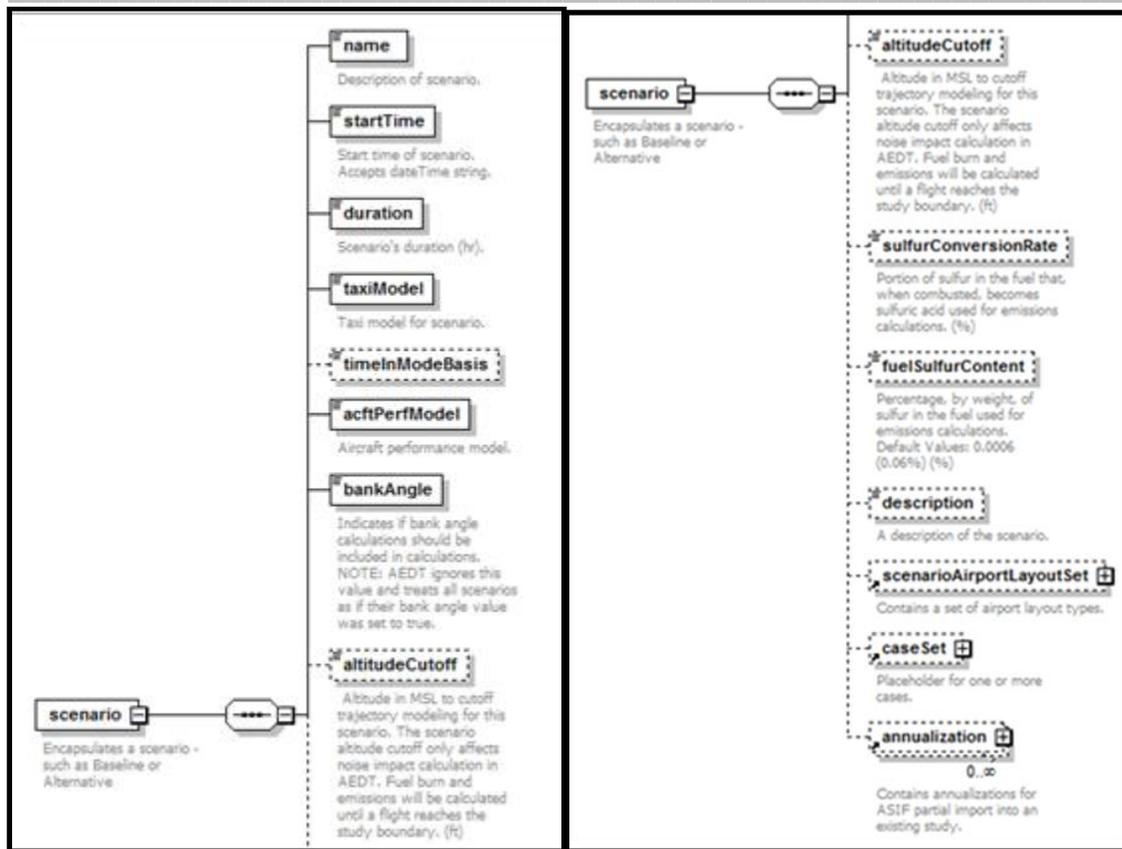

Figure 44- xml element scenario
6. **AsifXml/study/scenario (Figure 44):**